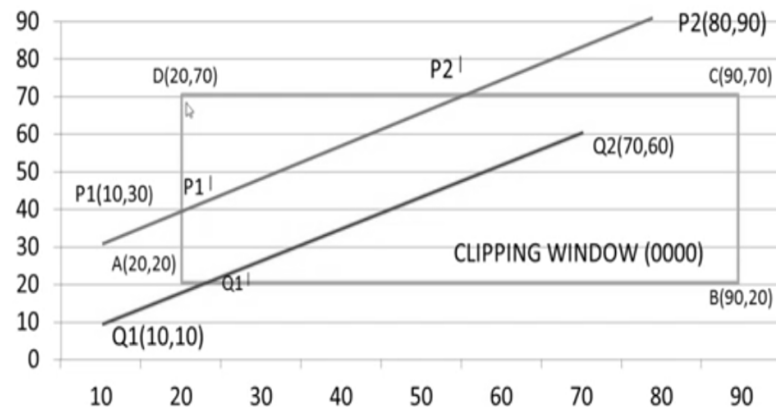

Figure 2
- d) Using the Cohen Sutherland algorithm clip line given by point P1(10,30) and P2(80,90) in figure 2 and provide the coordinates of the new points of the line. **(8 marks)**